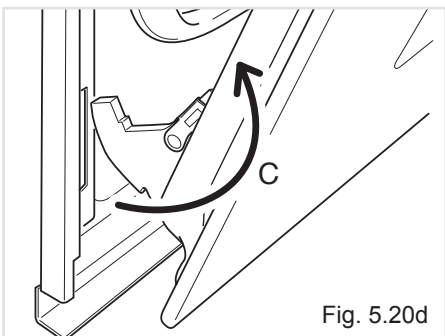

Fig. 5.20d
- Withdraw the hinge hooks from their location following arrow "C" (fig. 5.20d).